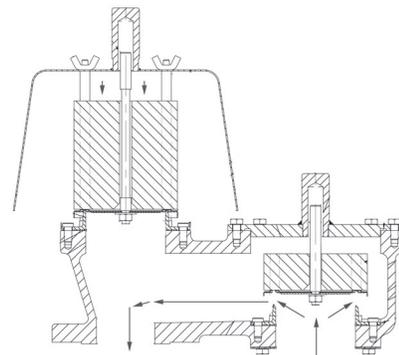

Figure 2 - Vacuum Relief
**Figure 2** illustrates the operation of the Vacuum Relief Vent under vacuum conditions. As the tank pressure decreases as a result of product being pumped out of the tank and/or because of thermal contraction of the product and vapors, the vacuum pallet remains closed until the set vacuum of the vent is reached. When the tank vacuum reaches the vacuum setting of the vent, the vacuum pallet lifts allowing air to be drawn into the tank.